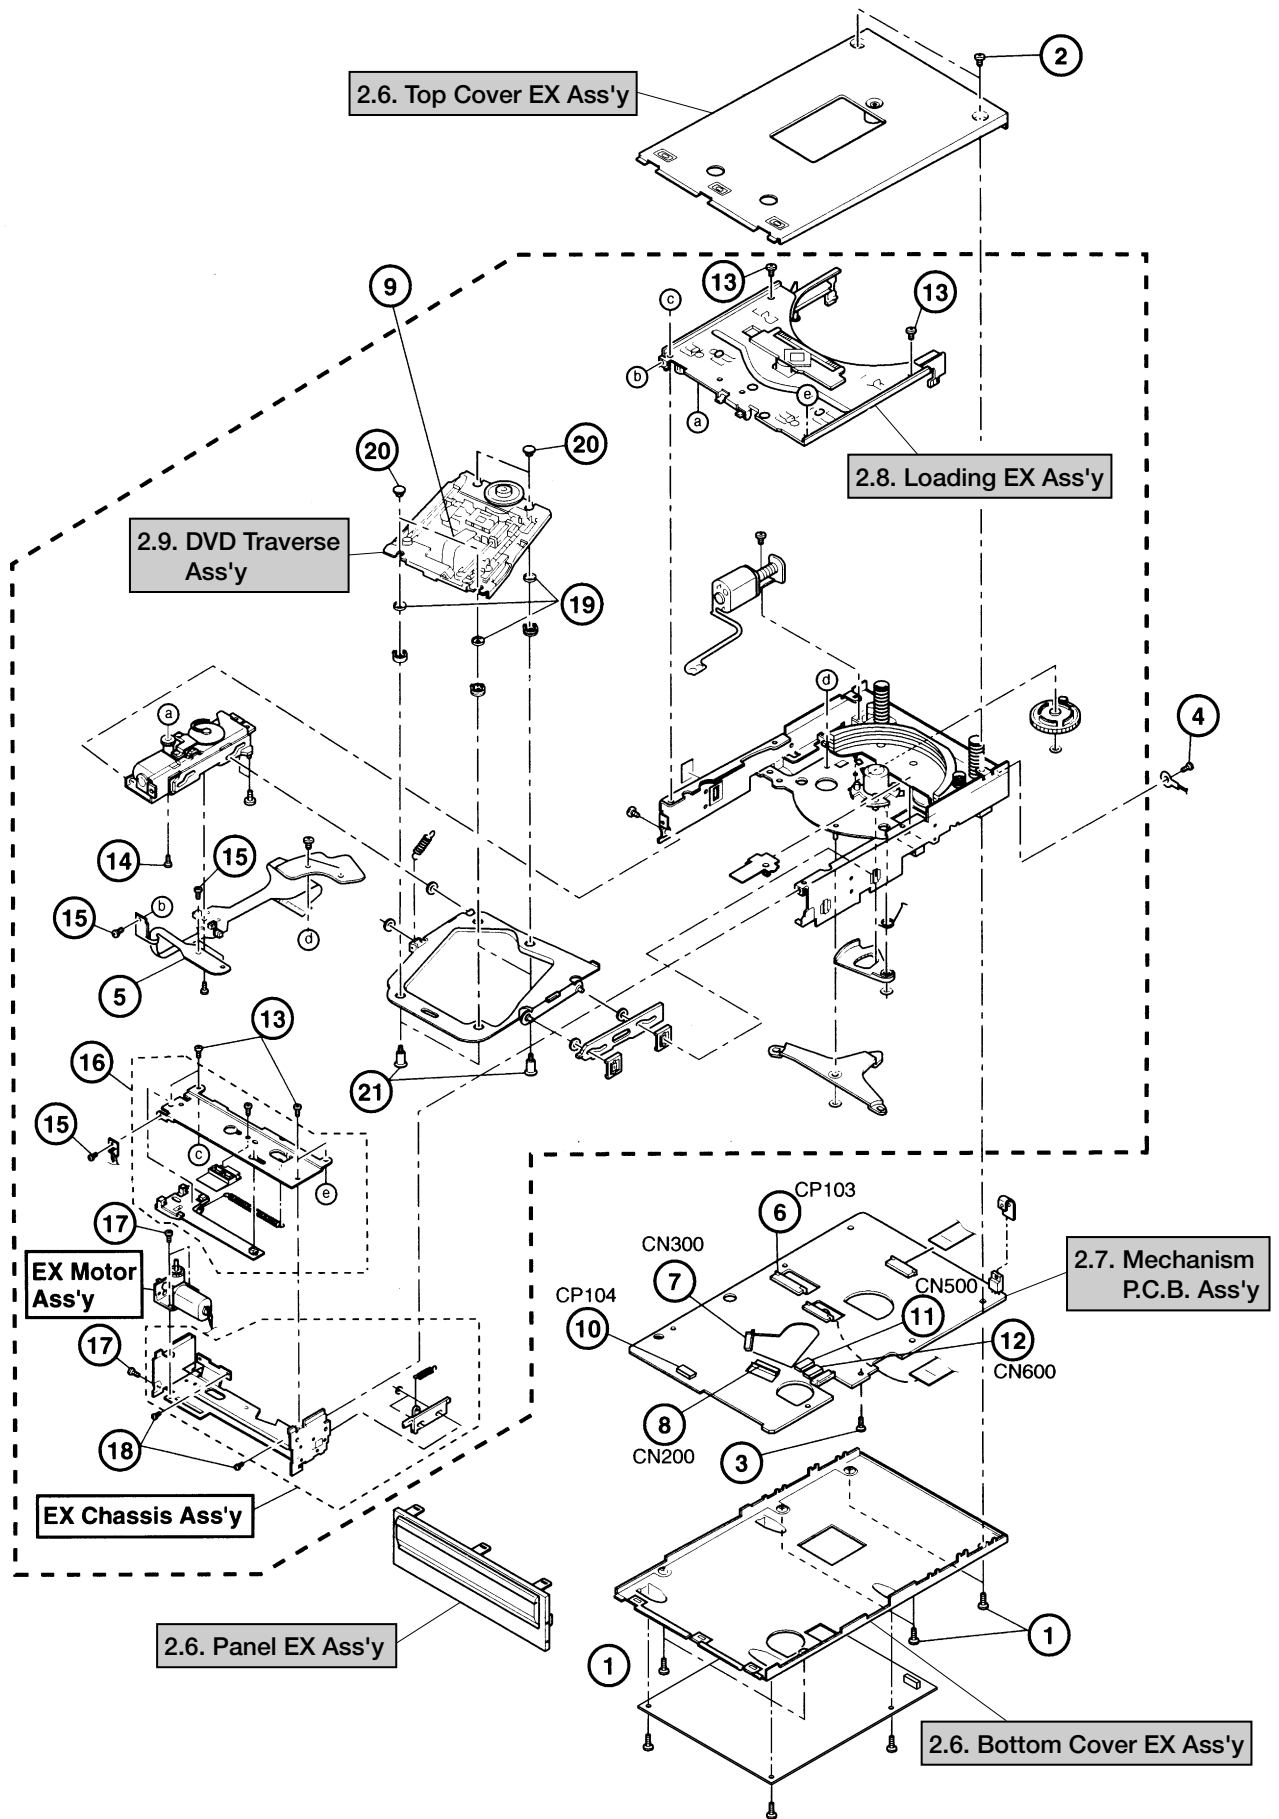

Fig.2-7
2.6. Bottom Cover EX Ass'y, Top Cover EX Ass'y and F Panel EX Ass'y (Refer to Fig. 2-7)
2.7. Mechanism P.C.B. Ass'y (Refer to Fig. 2-7)
2.8. Loading EX Ass'y (Refer to Fig. 2-7)
2.9. DVD Traverse Ass'y (Refer to Fig. 2-7)